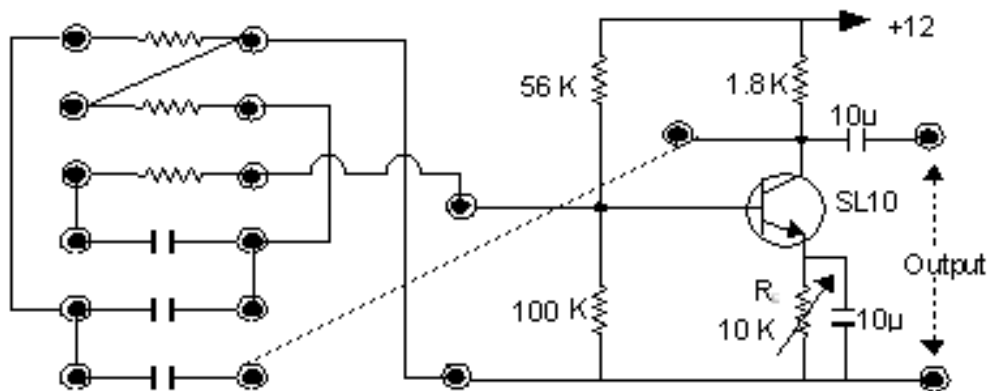

Fig. 2
1. Connect the circuit as shown in fig.2